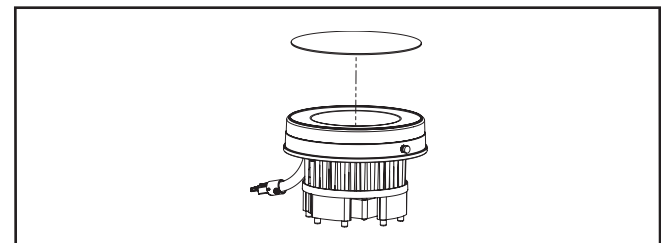

Figure 5.
2. Insert lens onto white reflector. (Figure 5.)